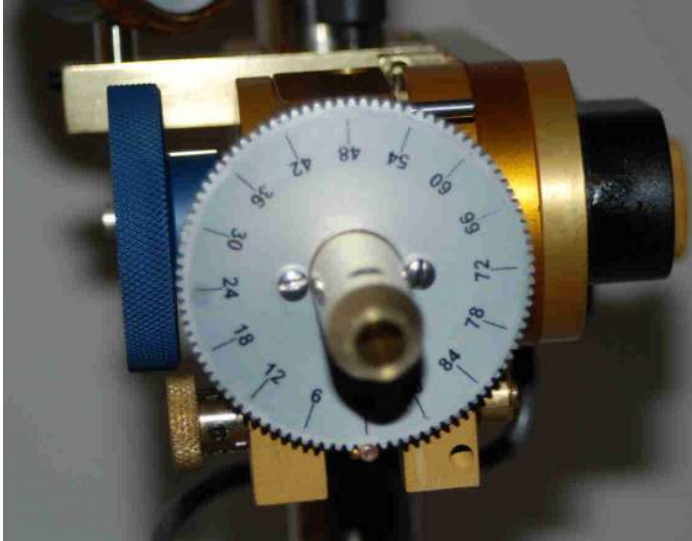

Fig 12
(24) CHANGING INDEX WHEELS. (Fig 12)